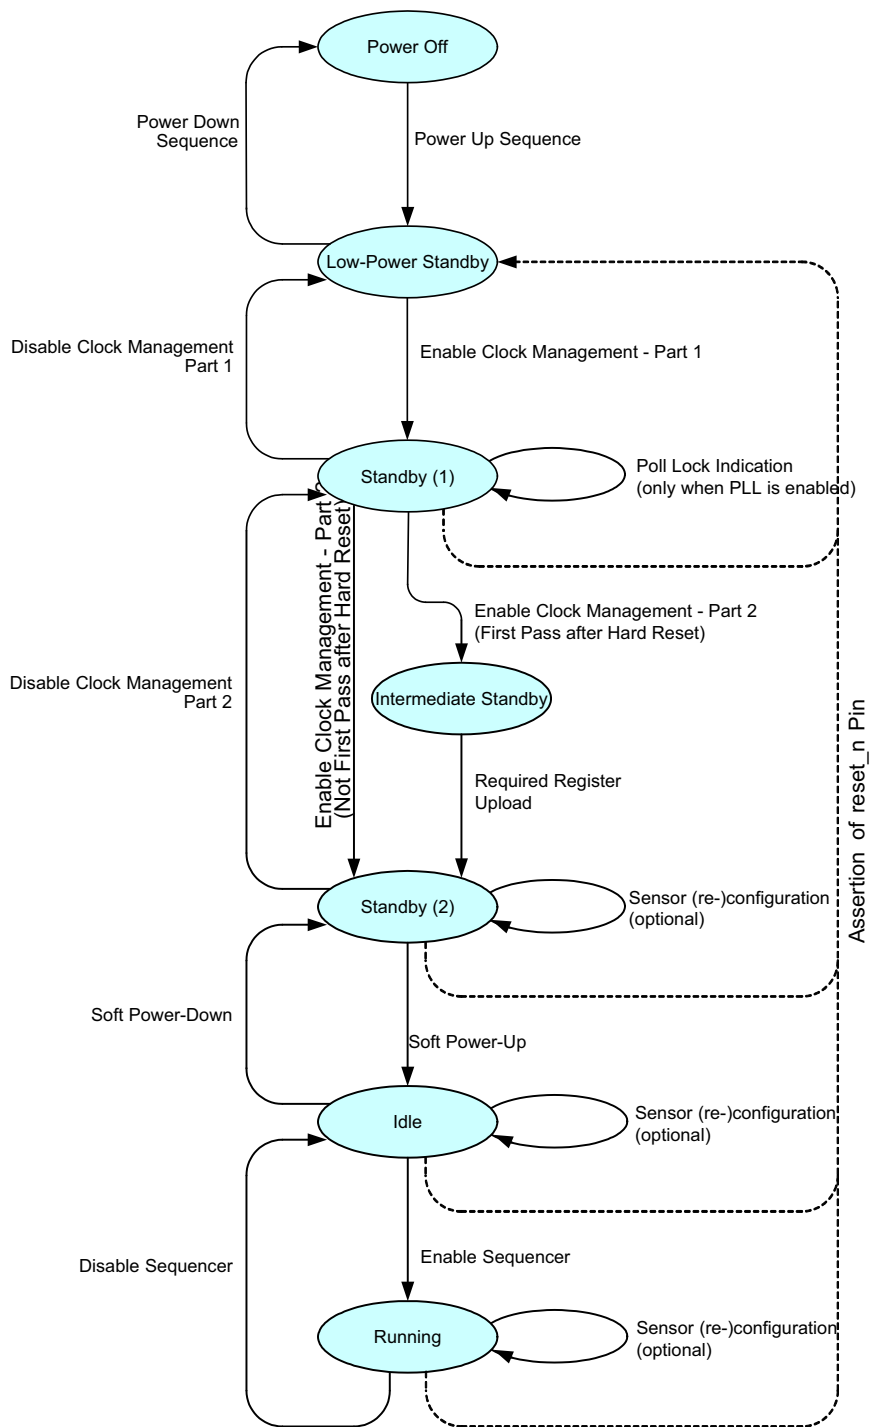

Figure 16. Sensor Operation Flowchart
Figure 16 shows the sensor operation flowchart. The sensor has six different ‘states’. Every state is indicated with the oval circle. These states are Power off, Low power standby, Standby (1), Standby (2), Idle, Running.
Check the PLL_lock flag 24[0] by reading the SPI register. When the flag is set, the ‘Enable Clock Management– Part 2’ action can be continued. When PLL is not used, this step can be bypassed as shown in Figure 16 on page 14.